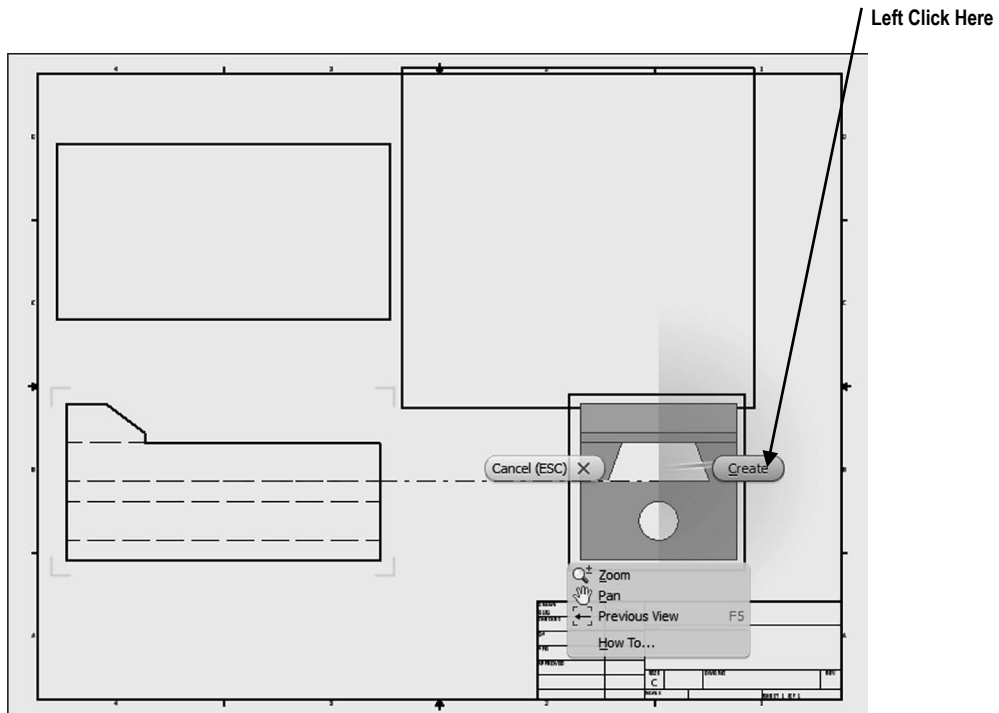

Figure 22
27. Right click on the last view created (side view). A pop up menu will appear. Left click on **Create** as shown in Figure 22.